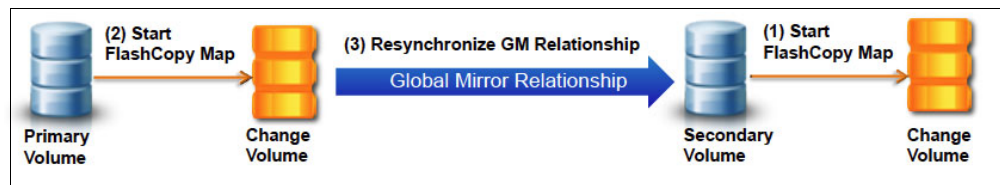

Figure 12-14 Global Mirroring with Change Volumes relationship
- *Global Mirror with Change Volumes* is an asynchronous function that is based on adjustable point-in-time copies of data. Global Mirror with Change Volumes was designed for replication over lower-bandwidth networks. Figure 12-14 shows a simplified Global Mirror with Change Volumes relationship.